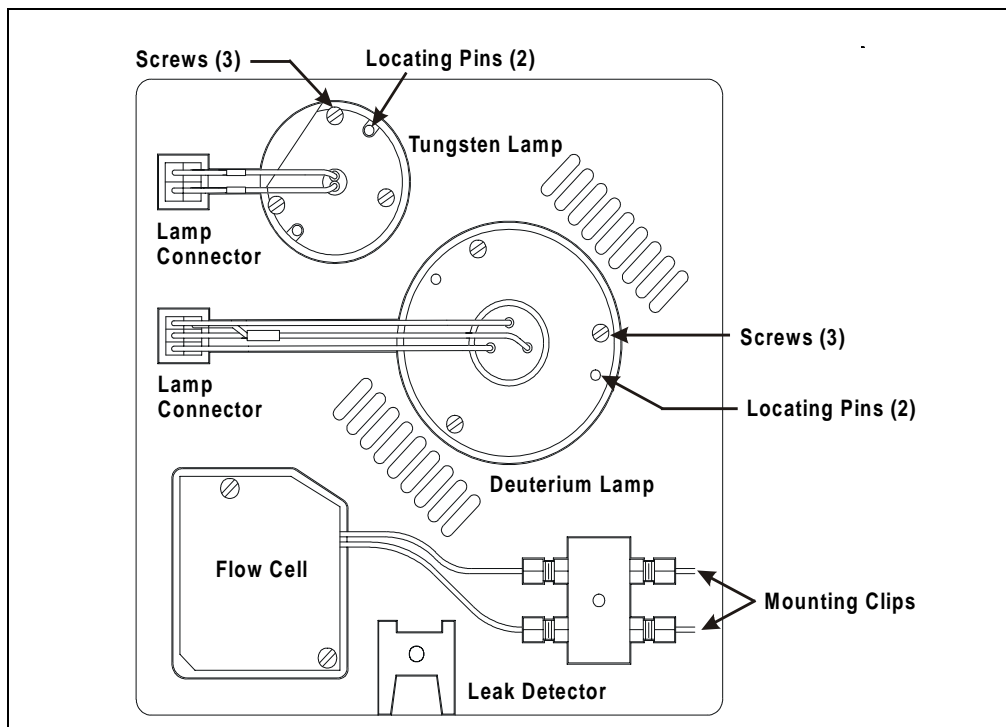

Figure 5-2. Lamp Connections to the Optical Bench (Inside the Front Door)
4. Disconnect the UV lamp connector from the front cover of the optical bench (see Figure 5-2).
4. Disconnect the Vis lamp connector from the front cover of the optical bench (see Figure 5-2).